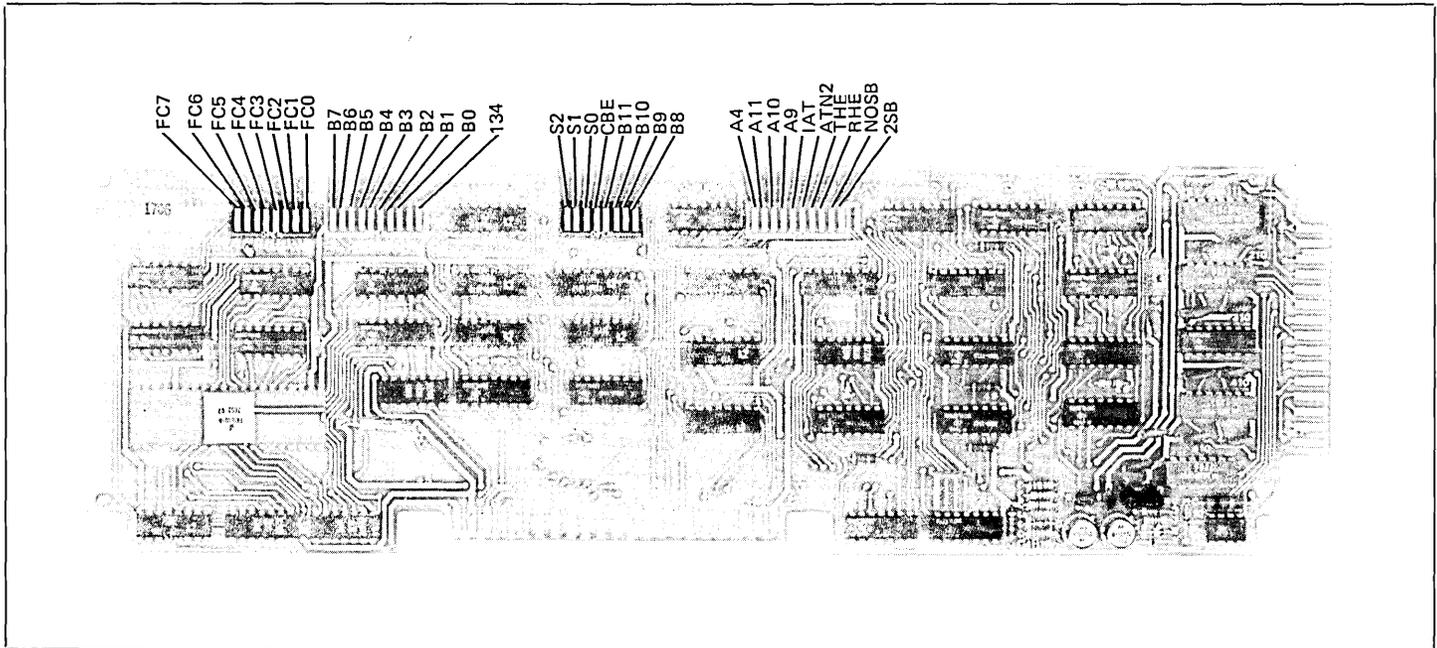

Figure 3-19A. Extended Asynchronous Data Communications PCA Strapping Option
**ACCESSORY 13260B.** For Accessory 13260B, both the Keyboard Interface PCA and the data communication PCA (02640-60089 or 02640-60143, whichever is used) (see figure 3-19A) must be configured.